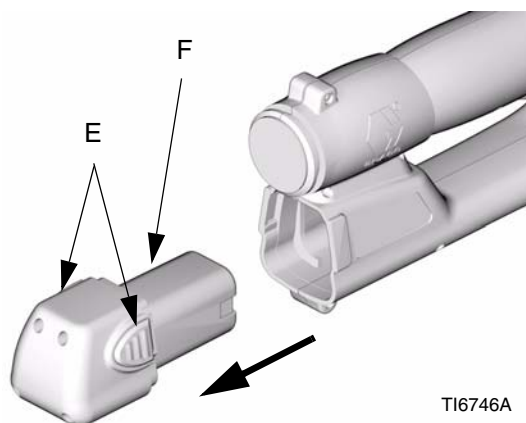
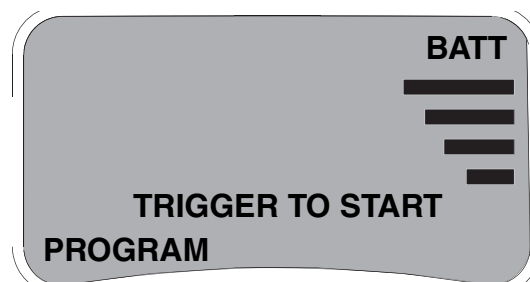

FIG. 1
FIG. 3
1. Remove the battery by pressing in on both battery lock buttons (E) and pulling the battery (F) out and away from the Signal Tester. See FIG. 1.
3. Replace the battery by pressing in on both battery lock buttons (E) and pushing the battery (F) into the Signal Tester.
1. To turn on the power to the RF Signal Tester insert a fully charged battery. See FIG. 1. The RF Signal Tester powers on to the main screen. See FIG. 3.